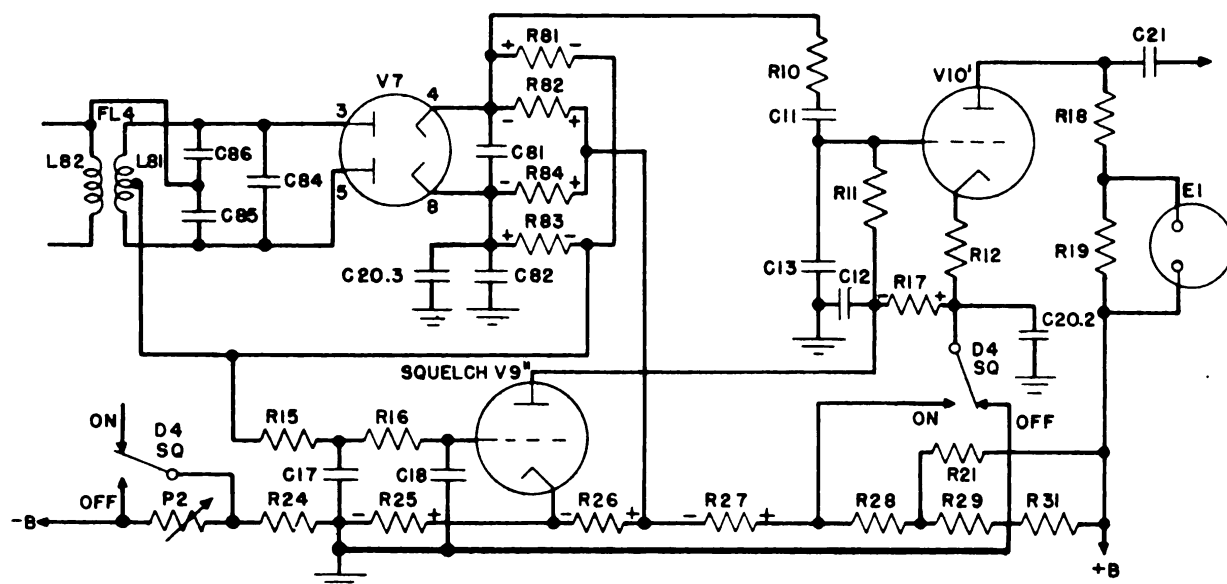

Fig. 30. Radio Receiver BC-683-A: Functional Diagram of Squelch Circuit
i. Squelch Circuit. A functional diagram of the squelch circuit is shown in Fig. 30.
When there is no input to the discriminator, no signal voltage will be built up across either R81 or R83. With no signal voltage being received, noise voltage is developed across R81 and R83. If the SQUELCH switch is at ON, the amount of noise voltage is adjustable by means of P2, and the audio-frequency amplifier V10' (Fig. 30) is then biased beyond cutoff by reason of the current (from the plate circuit of the squelch tube V9'') flowing through R17. The CALL SIGNAL light is then extinguished since no current flows in the plate circuit of V10'. It will be observed that the control grid of the squelch tube is positive with respect to the cathode (grid current flow is limited by R15 and R16). The cathode is connected to the junction of R25 and